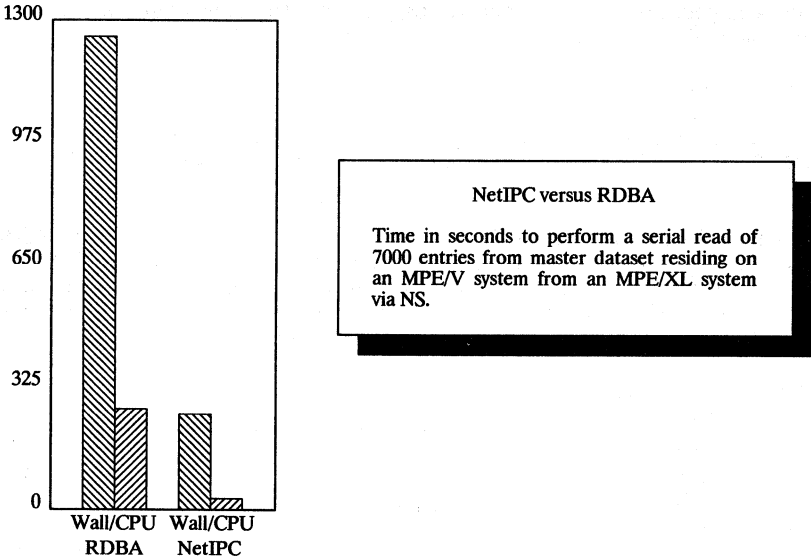

Figure 3
2. Poor throughput or high response times can be caused due to the large amount of data transmitted by RDBA over communication links which are always relatively slow in comparison to a local access path. For example RDBA transmits the whole data base buffer which is created on a remote node. However typically you don't need all the data items in all the records. You probably only want some of the data items from some of the records. Solution: do the processing on the remote node (where it is local to the data base) and only transmit the data required by the user program. Figure 3 shows some comparative figures I obtained.